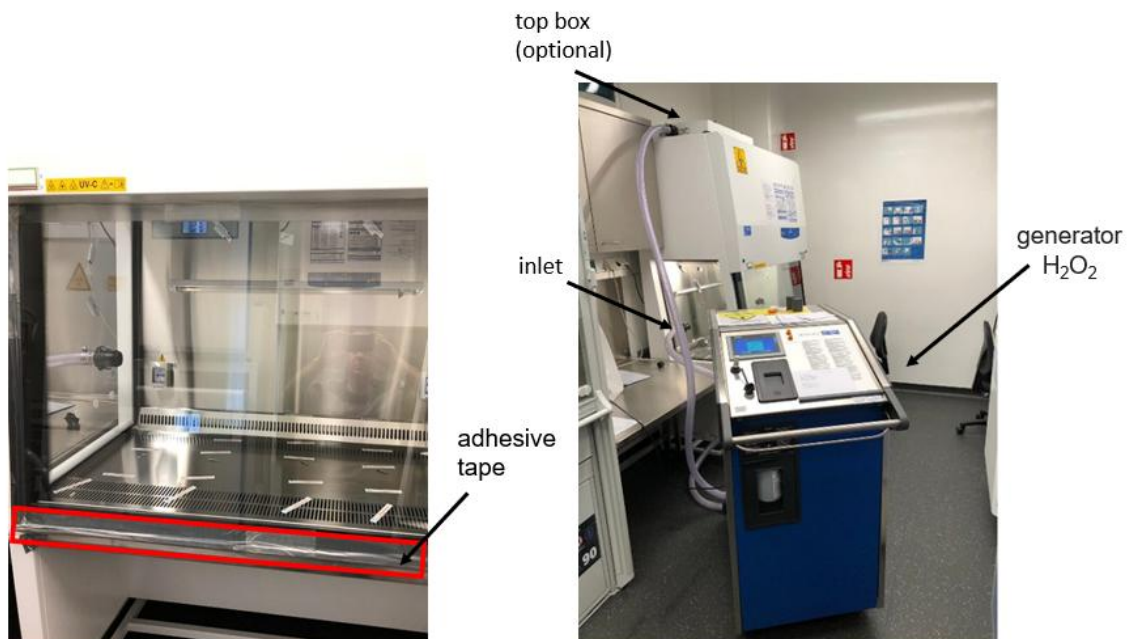

Figure1 : Closed system with hydrogen peroxide generator and catalyst
- An inlet lock located on the side wall of the cabinet is used to inject steam into the work area. A hose connects the VHP generator to the entrance lock (figure 1).
- An outlet camlock located in the upper box, above the exhaust filter. A return pipe connects it to the VHP generator (optional) (figure 1).